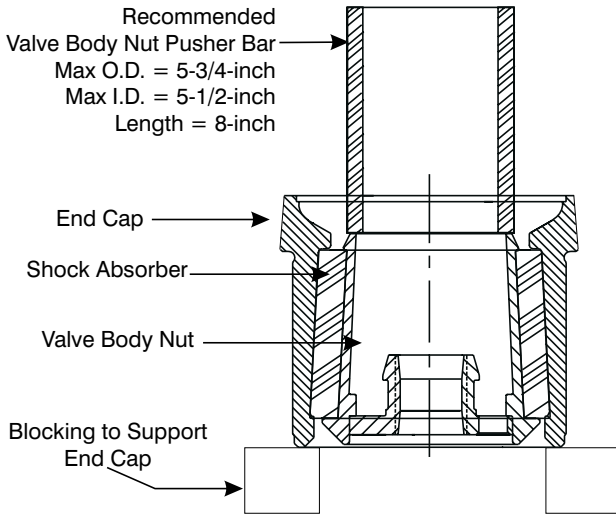

Figure 8-26. End Cap in Arbor Press
2. With threaded end down, place the End Cap in the arbor press as shown in Figure 8-26.
- Support the edges of the End Cap (10) with standard blocking.
- Provide additional space below the blocking to permit Valve Body Nut (12) travel during pressing.